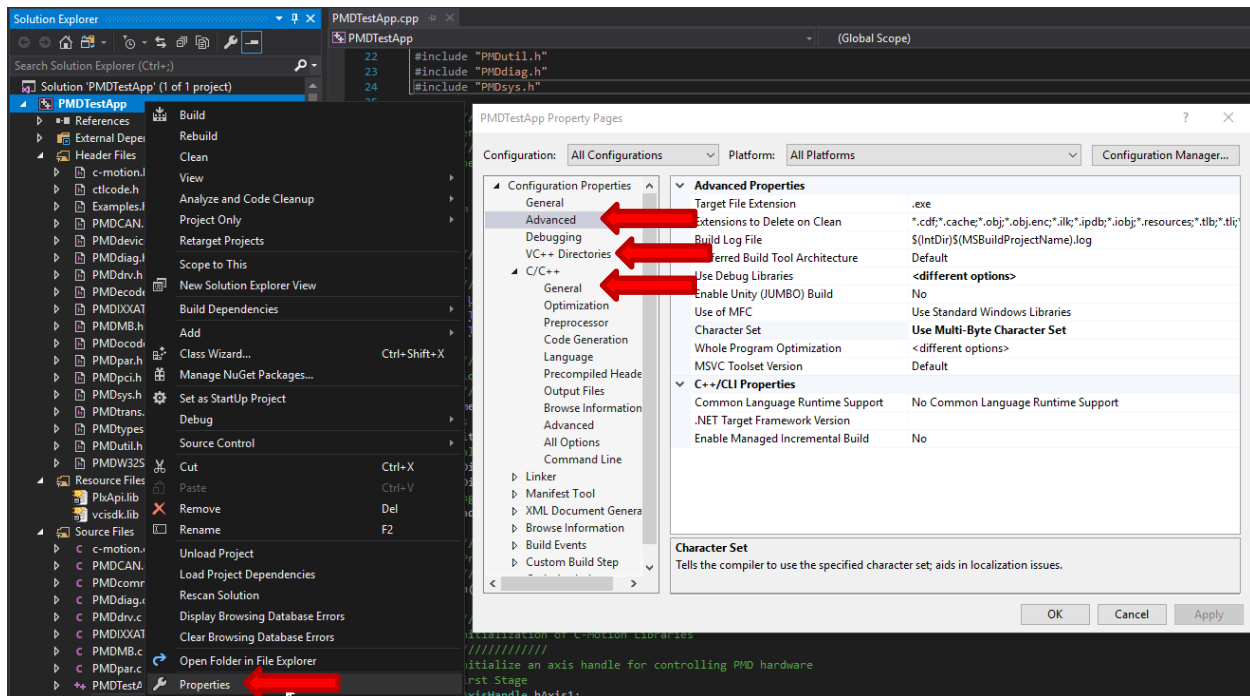

Figure 33 - VS2019 Project Properties
- 6) Project Properties need to be modified, right click on the project name in the solution explorer view and select properties – be sure to select all configs and all platforms per Figure 33 - VS2019 Project Properties